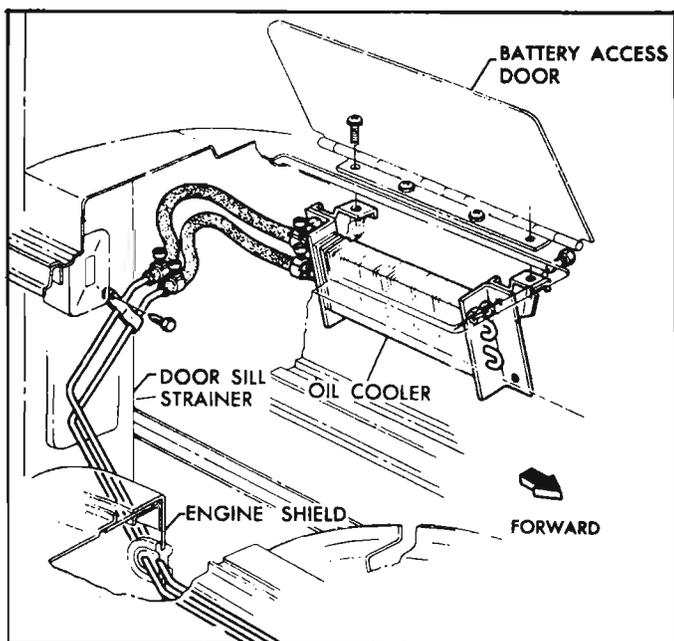

Fig. 6E-56—Transmission Oil Cooler
- A different front pump assembly is used to provide cooler "in" and "out" (fig. 6E-57) connections to the transmission oil supply.
- Front pump body incorporates a cooler bypass (fig. 6E-58) provision to allow oil to recirculate within the transmission in the event of any restriction which creates a pressure build-up of more than 15 psi.